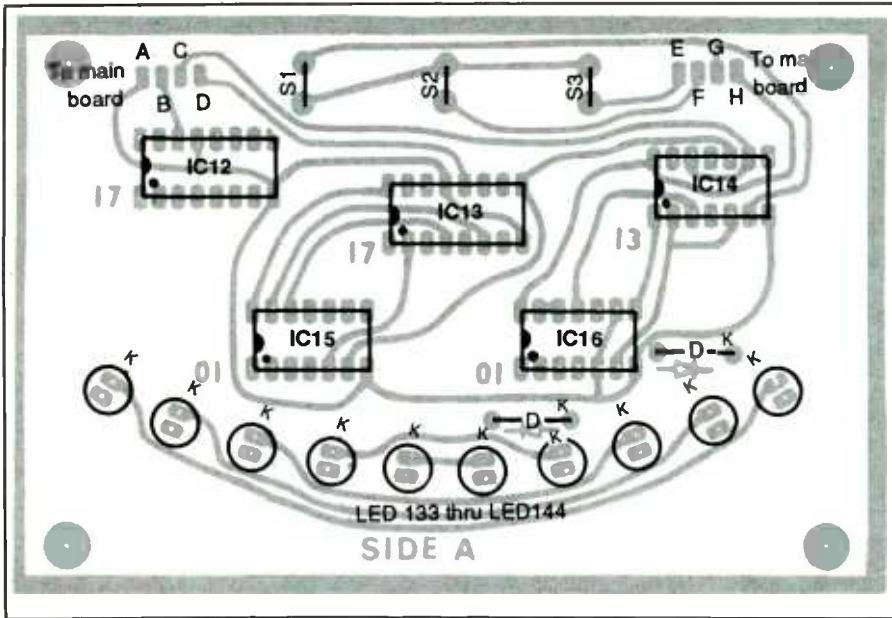
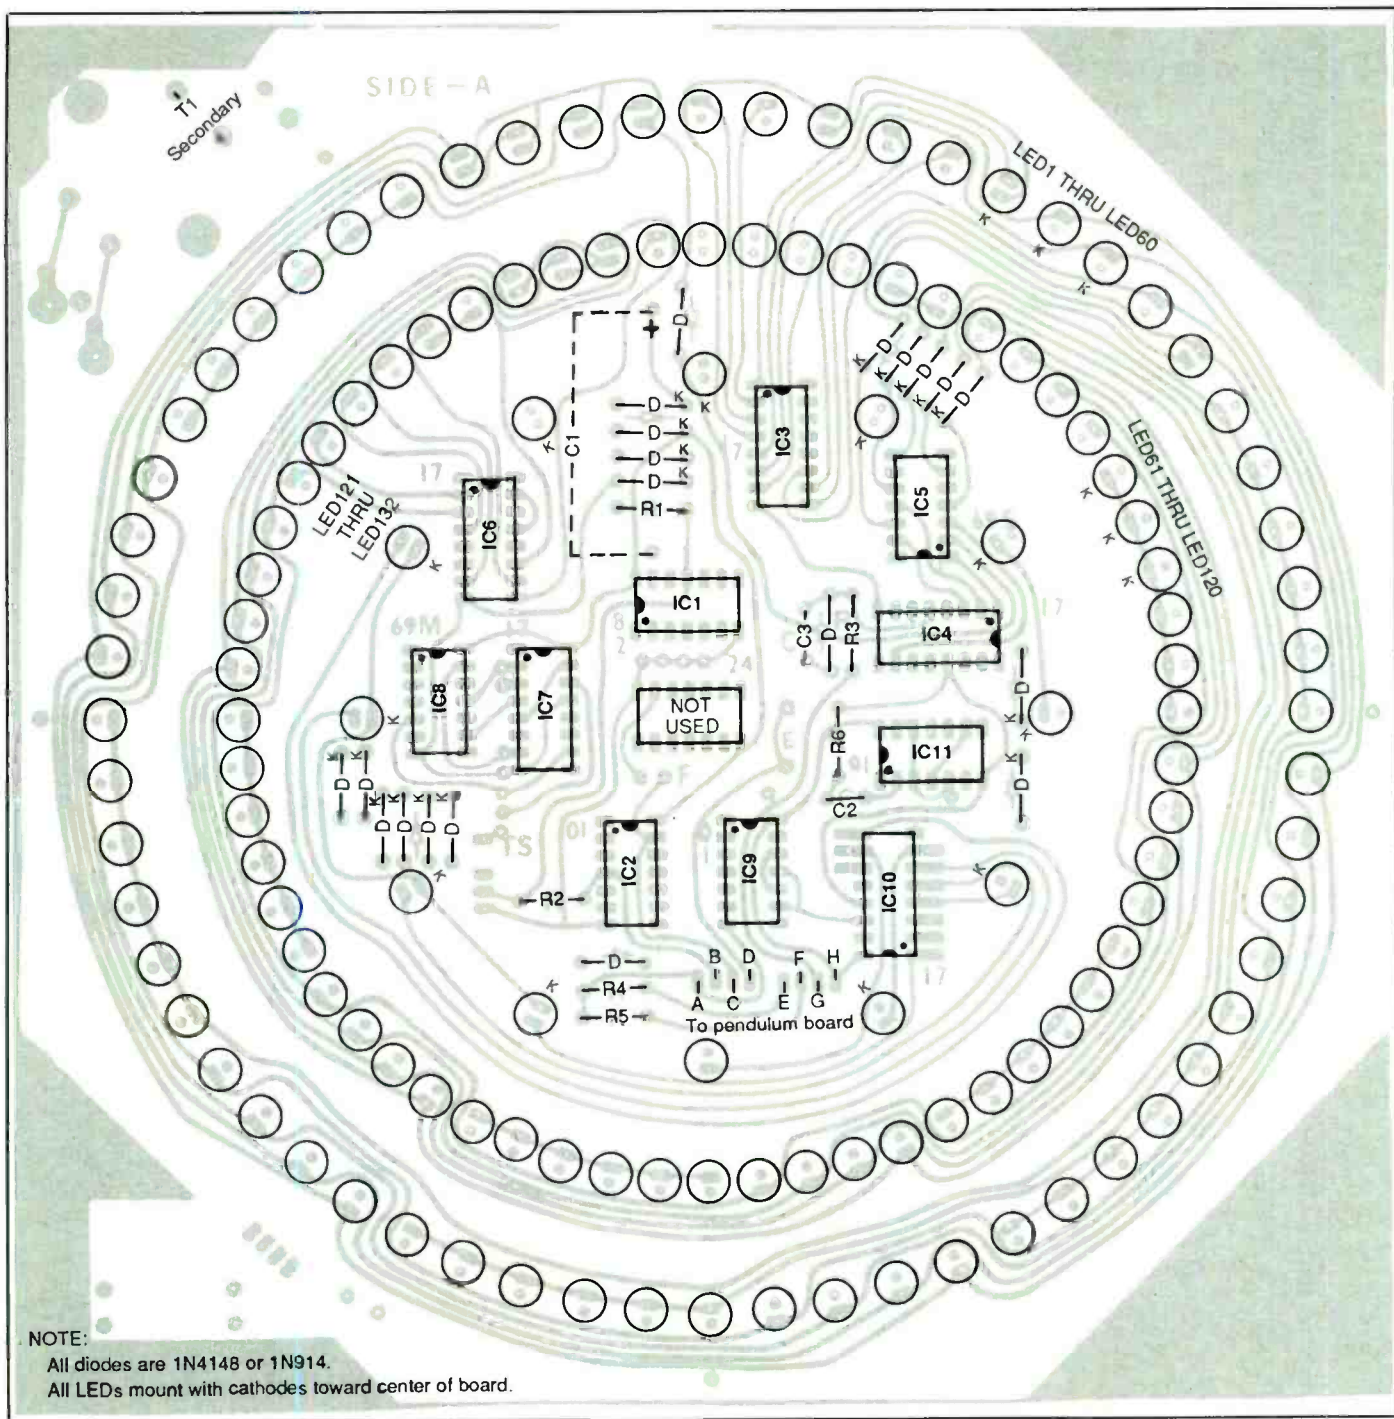

Fig. 4. Wiring guide for the pendulum board, viewed from the component side.
Fig. 5. Wiring guide for the main board, viewed from the component side.
Wire the pendulum board first, referring to Fig. 4 for details. (Note: The views shown in Fig. 4 and Fig. 5 are from the top of the board.) Install the sockets (or Soldercons) first but *not* the ICs themselves in the indicated locations. This done, identify the cathode leads of the 10 light-emitting diodes that make up the pendulum. Install these LEDs on the board in the indicated locations and solder their leads into place. Note that the cathode (K) leads all face toward the top of the board. Position the LEDs so that the bottoms of their cases are a uniform  $\frac{1}{8}$  inch above the surface of the board.
Set aside the pendulum board and place the main board on your work surface in the orientation shown in Fig. 5. Begin populating this board by installing and soldering into place the sockets (or Soldercons) in the indicated locations. Note that no socket should be installed in the location in the center of the board. Again, do *not* install the ICs in the sockets yet. Then install and solder into place the resistors and diodes, making sure that the latter are properly oriented before soldering their leads to the copper pads.
Set the main board in place inside the enclosure, orienting it as shown in Fig. 5. Determine where to mount the power transformer. It should be located as close as possible to the T1 SECONDARY holes in the upper-left corner of the board. Mount the transformer in place using two No. 5  $\times$   $\frac{1}{2}$ -inch wood screws.